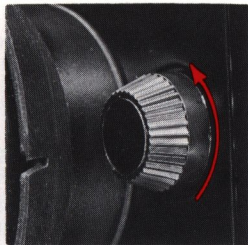

Fig. 20
2. To get into the scene, place the camera on a tripod, aim it at the scene, turn the viewfinder light-stop knob to the left* (Fig. 20), then press the trigger and turn the locking wheel in the direction of the arrow. The camera will keep running until the trigger is unlocked by turning the wheel in the opposite direction.